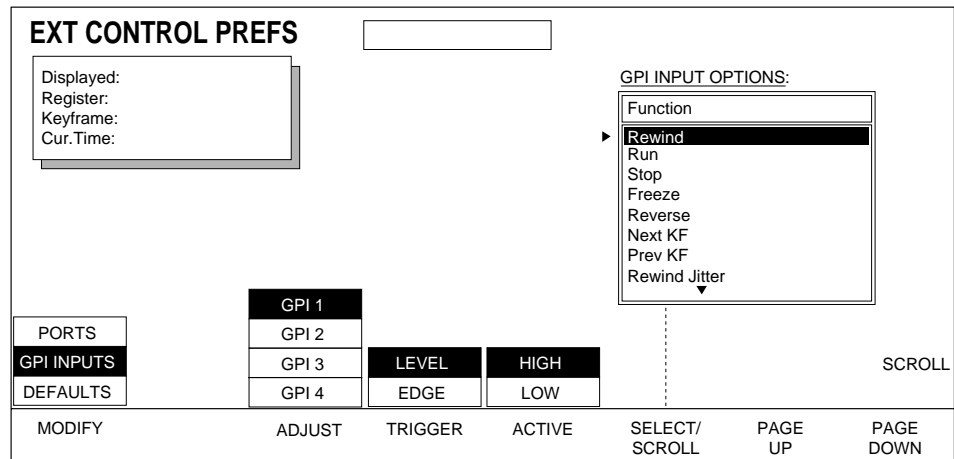

Figure 3-30. External Control Preferences Menu, GPIs
3. Pressing the MODIFY soft button to select GPI INPUTS brings up a list of the GPIs and a list of GPI functions (Figure 3-30).